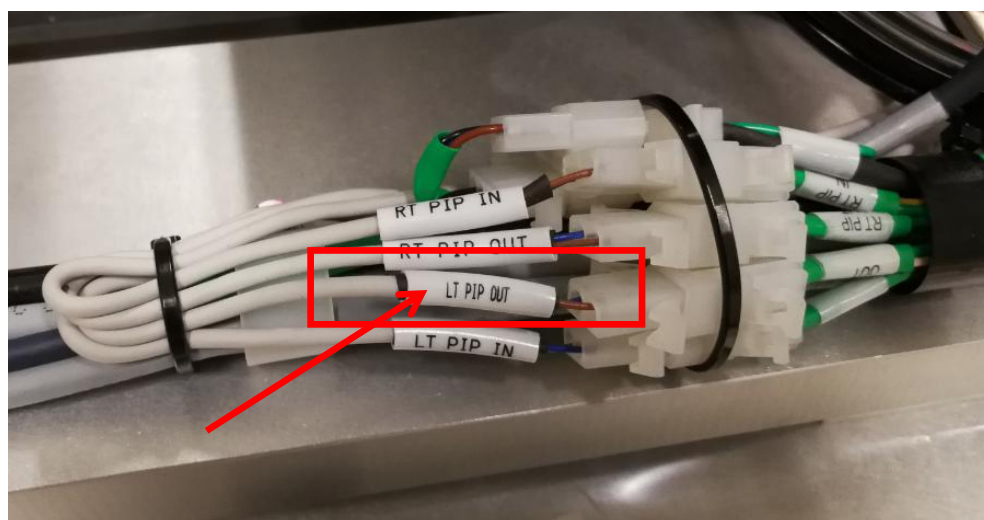

Figure 16 LT PIP Out Connector Removal
5. Identify "LT PIP Out" Label. Unplug Left PIP Out Reed Sensor Cable Connector as shown in Figure 16 below.